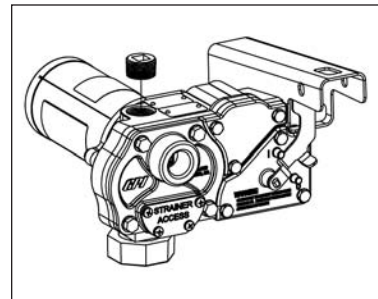

Figure 6
2. Using a drive ratchet or extension, remove the pipe plug from the top outlet port. (Figure 6)